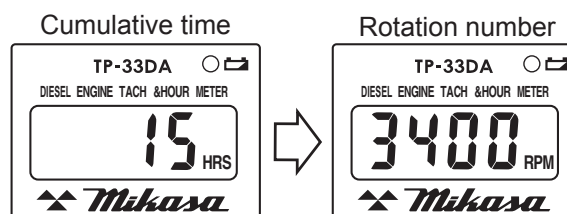

Figure 14. Hour Tachometer (Rotation Number)
6. When the engine is in operation, the Hour Tachometer display will show the 'rotation number' (Figure 14).